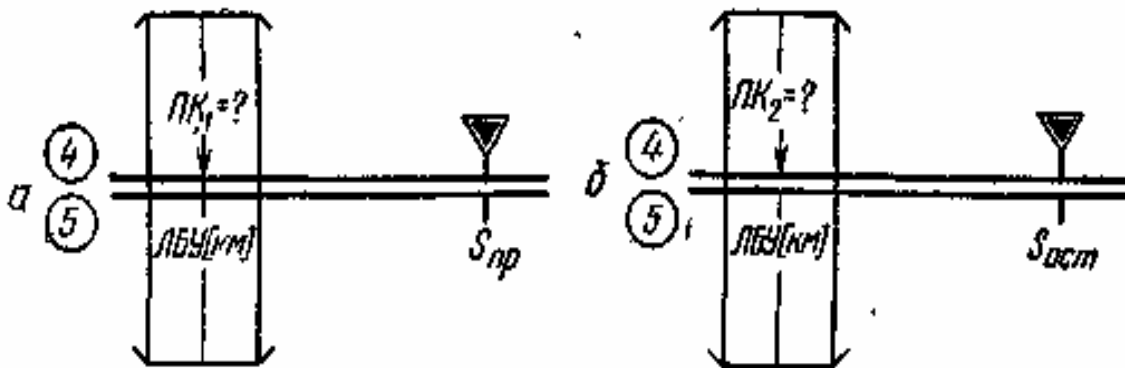

Fig. 49 Calculation of correction into the course on distance and lateral deviation for NL-10M.
**Note:** If the lateral deviation in degrees is known and unknown the lateral deviation in the kilometers, then the problem of the definition of additional correction into course for the target approach **ППМ** is solved; then, as shown in Fig. 49, with the only difference that first against the boning rod (see Fig. 49a), we read the desired value not  $БУ^\circ$ , and we already calculate additional correction into the course from  $ЛБУ$  in km, as shown in Fig. 49b.